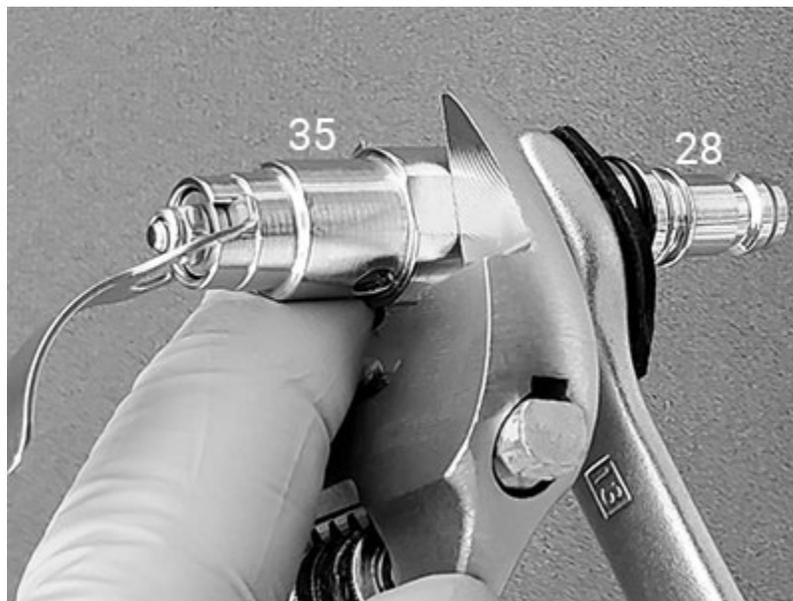

Fig. 47
16. Using a 13 mm open-end wrench on the Inlet Stem and an adjustable wrench on the Valve Housing, tighten the two until snug - Fig. 47.